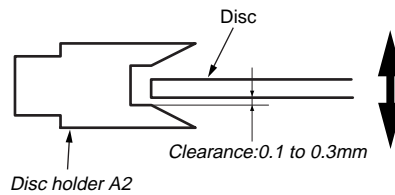

Fig. 4
9. Check that disc holder A2 is not touching the disc, and adjust the adjusting screw A until the edge of the disc meets the edge of the disc holder as shown in the figure. (Fig. 4, Fig. 5)
14. Visually check the chucking pulley, and adjust the adjusting screw B shown in the figure so that the positional relation of the holder (magnet) and chucking pulley satisfies the specified values. (Fig. 4, Fig. 5).